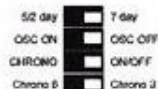

Fig. 4
4. Before fixing the unit on to its wallplate, ensure that the four DIP switches on the rear of the unit (see Fig. 4) have been moved to the required settings: the choices are:-